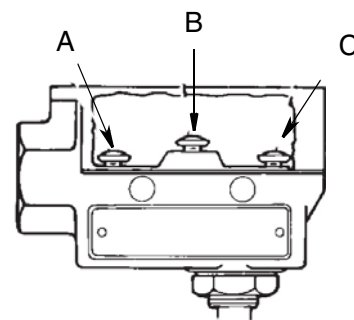

FIG. 13: Low Level Switch Wiring
5. Wire low level switch (304a) in accordance with local electrical codes. Refer to wiring diagram (FIG. 13).